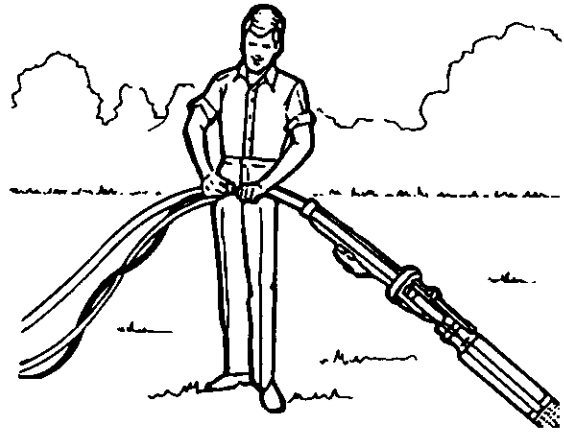

Figure 9
13. At about every five feet, tape electrical cable to the pipe (Figure 9). Use 1-1/2 to 2 wraps of tape. This will allow some freedom of cable movement to allow for stretch of the plastic pipe. Leave a surplus of electrical cable at the top for splicing purposes. Surplus can be neatly tucked into top of well casing.